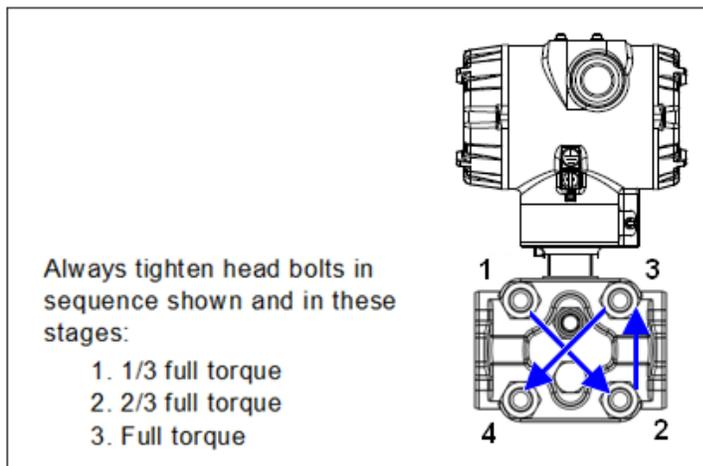

Figure 29 – Head Bolt Tightening Sequence
16. Use a torque wrench to gradually tighten nuts to torque rating in sequence shown in Figure 29. Tighten head bolts in stages of 1/3 full torque, 2/3 full torque, and then full torque.